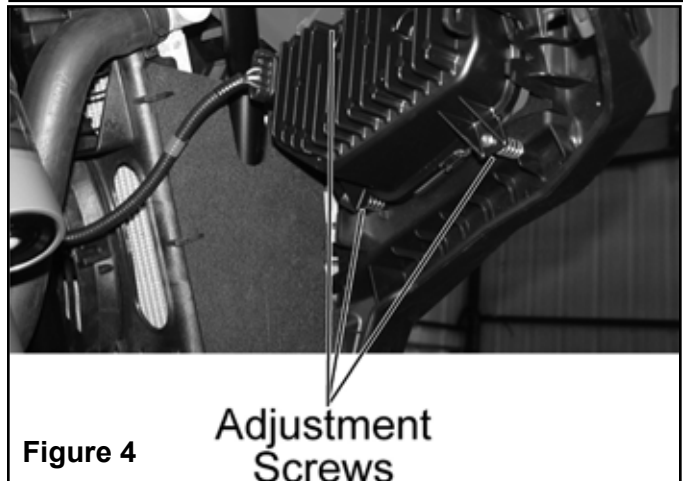

Figure 4
6. Tighten or loosen the three headlight screws to adjust the beam upward or downward or to the left or right. Figure 4.